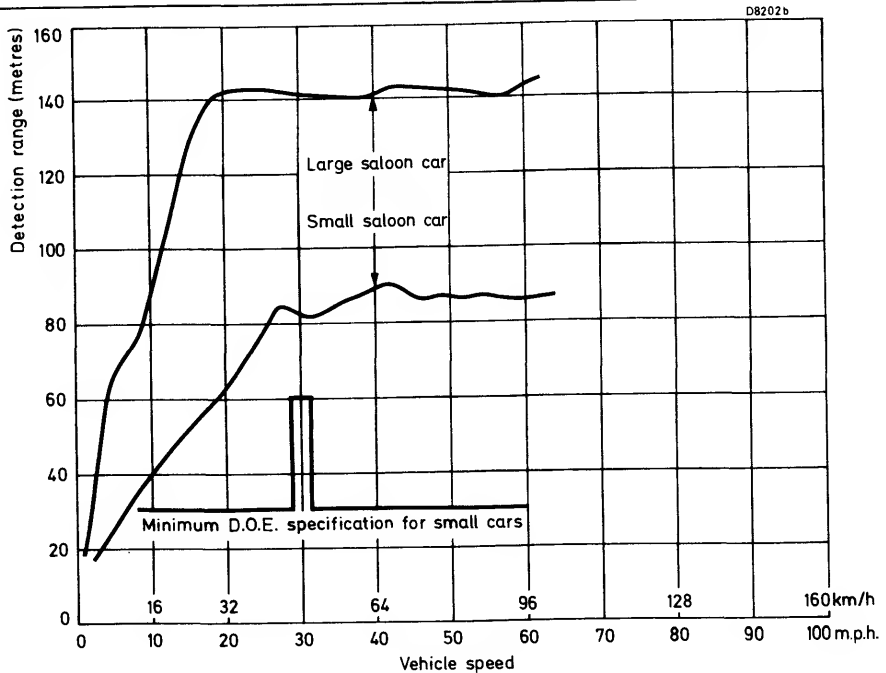

Fig.2 Typical detection curves obtained from road tests using six different microwave vehicle detectors.
3. Arrange for a vehicle, preferably a small car, to be driven towards and past the detector at approximately 50km/h (30 m.p.h.). When the car is between 150 and 100 metres approximately from the detector (see fig.2), the measured resistance between the normally-closed contacts should quickly increase to indicate an open-circuit. This condition should continue for approximately 1 second after the car has passed out of the detector's range.